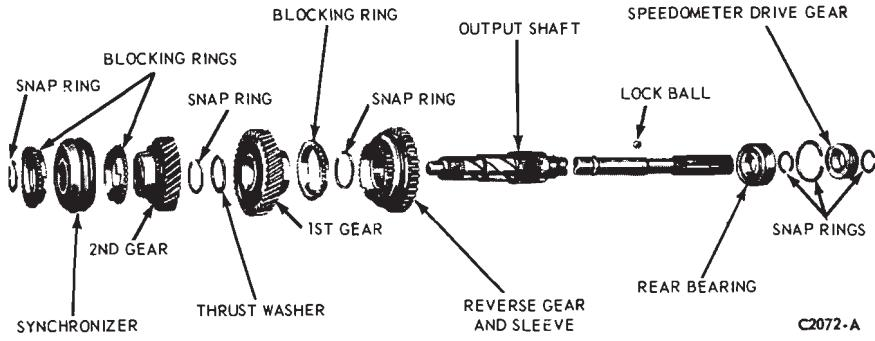

FIG. 14—Output Shaft Disassembled
23. Remove the snap ring from the front of the output shaft, and slide the synchronizer and the second-speed gear (Fig. 14) off the shaft.